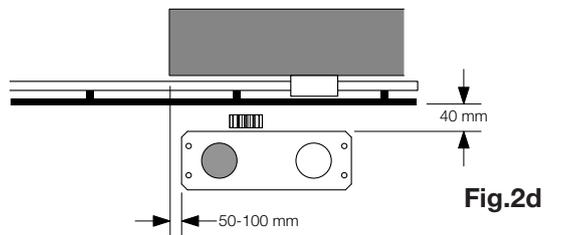

Fig.2d
- Fig. 2d installation with motor on the right